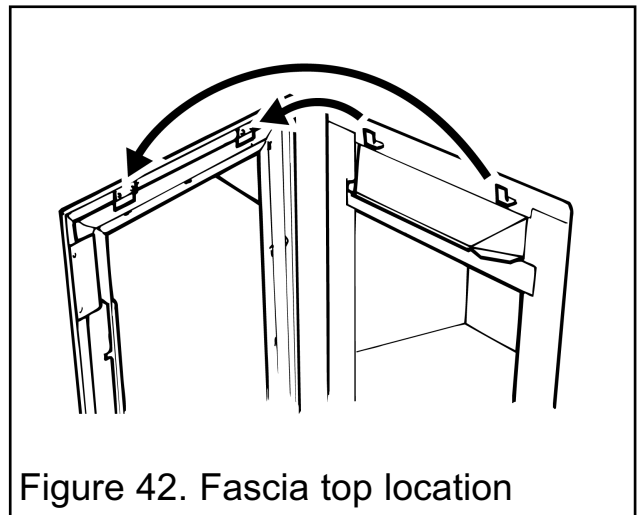

Figure 42. Fascia top location
- iii)* Carefully lift the fascia upward to clear the upper retaining brackets on the convection box (See figure 42). Pull the fascia clear and place carefully aside.